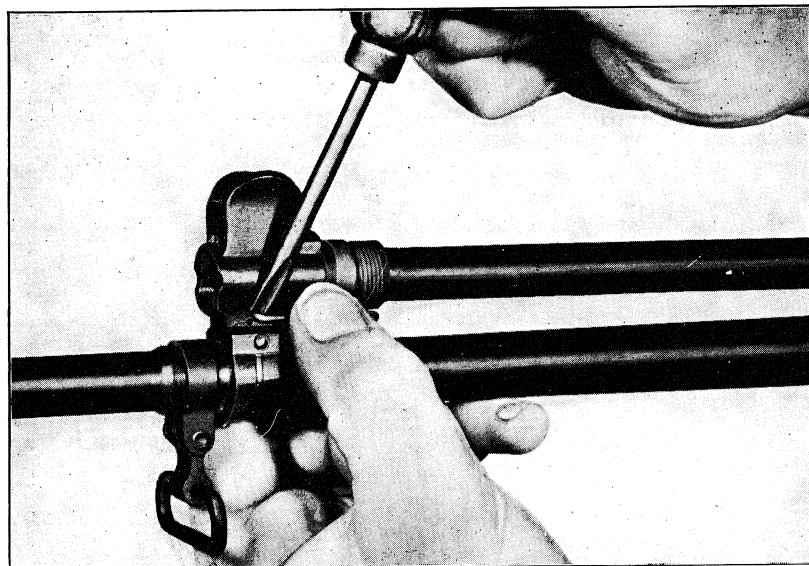

Fig.137
- Replace the gas regulator sleeve spring, using a screwdriver in order to reinsert the ends of the spring in their seats in the bracket (fig. 137).